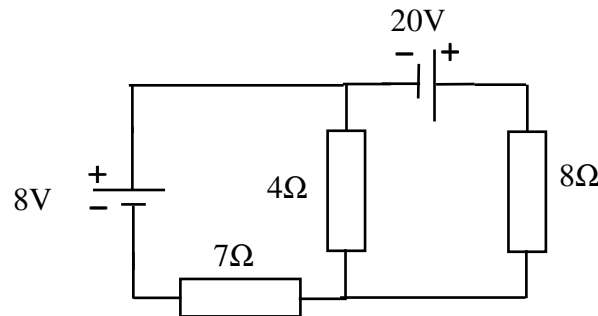
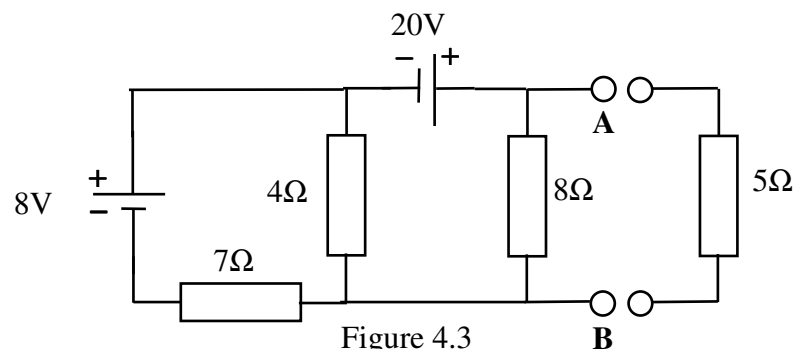

Figure 4.1
Figure 4.3
- (i) If the resistivity of the cable conductor material is $1.725 \times 10^{-8} \Omega\text{m}$ calculate the resistance of one conductor of the cable. (2)
- (ii) Calculate the new current drawn by the heater when it is first switched on (i.e. at 15°C) and the power dissipated by the heater at this temperature. (*Hint: remember that there is both a supply and return conductor in the circuit*). (3)
- (iii) Assuming any power dissipated in the cable is waste energy, calculate the system efficiency at 15°C. (1)
- (iv) The cable is now upgraded to ensure that the voltage across the heater at 15°C is at least 390V. Calculate the minimum cross-sectional area required for the new cable to ensure this requirement is met. (3)
- (i) Calculate the magnitude and phase of the current drawn from the supply. (1)
- (ii) What is the kVA rating of the equipment? (1)
- (iii) Calculate the reactive power drawn from the supply in kVAr (1)
- (iv) It is decided to use a capacitor to correct the overall power-factor to 0.98 lagging. By means of a suitable diagram, explain where the capacitor should be connected and calculate its required value in Farads. (4)
- a. For the network shown in Figure 4.1, find the value of the current through the 4Ω resistance using the method of superposition. Indicate the direction of the current. (6)
- c. The network of Figure 4.1 is to be used as a source for a load resistor of 5Ω , which is connected between **A** and **B**, as shown in Figure 4.3. Derive the Thevenin equivalent circuit for the source and hence calculate the power dissipated in the load resistor. (6)
- d. A rechargeable battery of nominal voltage of 12V is now connected between **A** and **B** (positive terminal connected to **A**) of Figure 4.3 in place of the 5Ω load resistor. Determine whether this battery will receive or deliver power and find the magnitude of the current passing through it when it is fully charged (12V). Assume that the battery has a negligible internal resistance. (2)
- e. Calculate the Norton equivalent circuit for the source network shown in Figure 4.3 (i.e. not including the load resistor). (2)